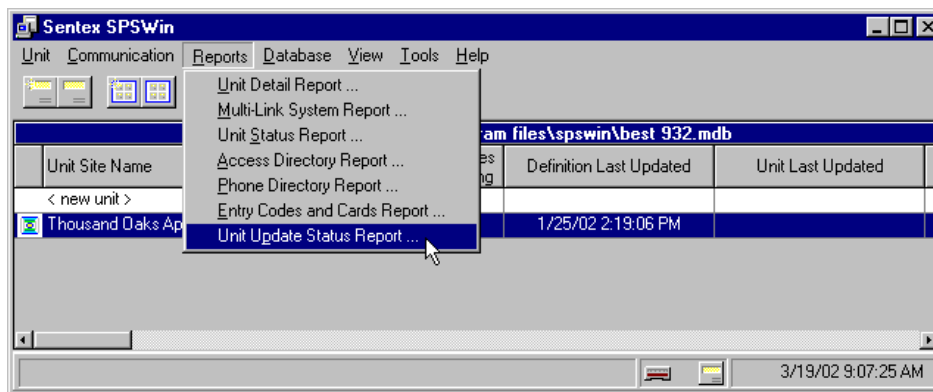

Figure 57: SPSWin Main Window With Reports Drop-Down Menu
- 1 From the SPSWin Main Window (see Figure 57), select Reports, and from the drop-down menu select Unit Update Status Report. The Selecting Unit Update Revisions window will be displayed.